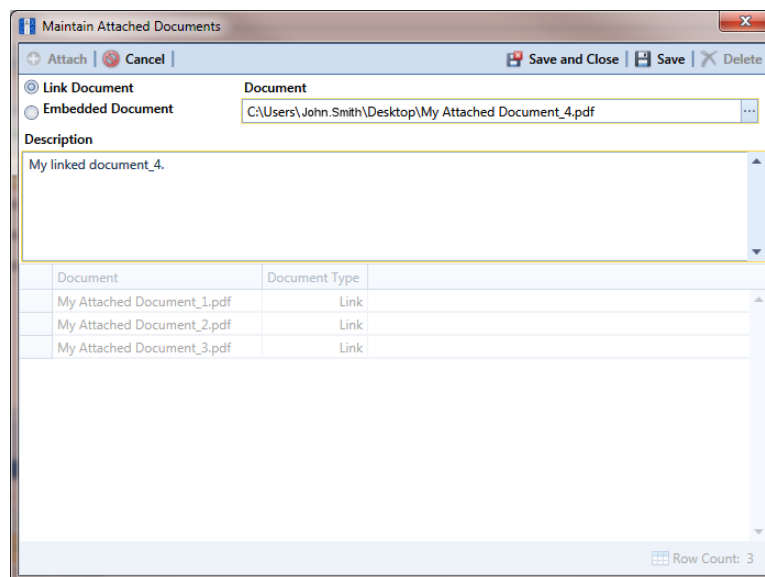

Figure 3-15. Maintain Attached Documents
- 6 When the *Maintain Attached Documents* dialog box opens, click  **Attach** and then select one of the following options (Figure 3-15, page 102):
- 7 If you selected *Link Document* in step 6 and want to link to a file on a local computer or company network, follow these steps (Figure 3-15):